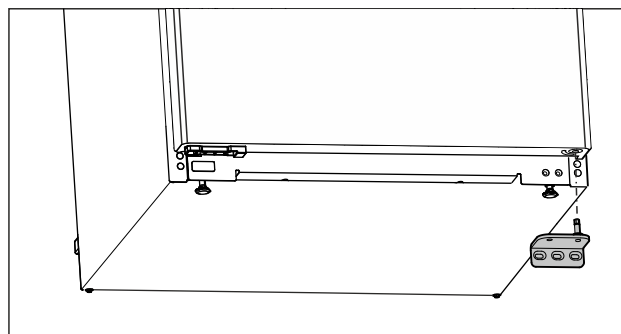

Fig. 14
- Remove the swap bearing block downwards. (see Fig. 14)